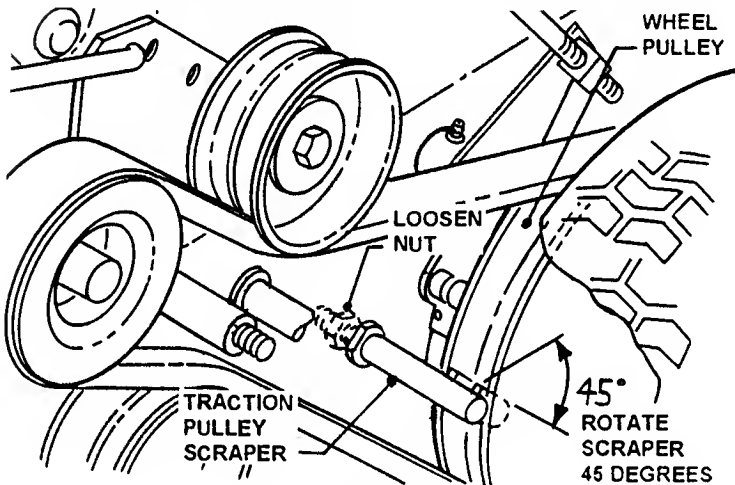

FIGURE 26
2. Loosen scraper mounting nut located on the under side of the power unit. See Figure 26.